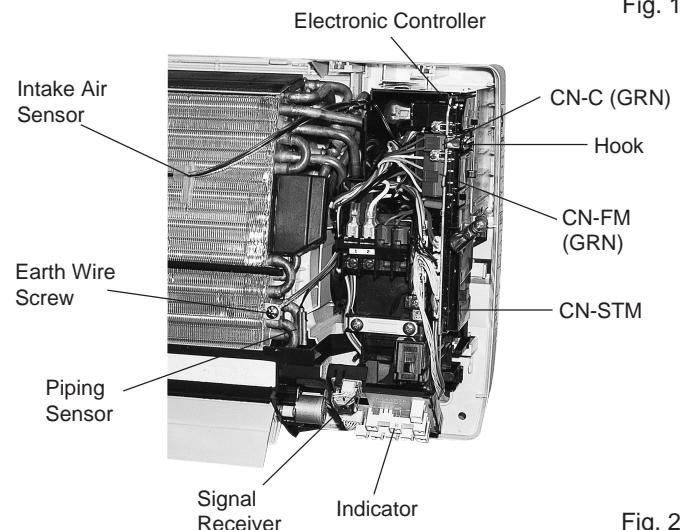

Fig. 2
1. The Electronic Controller, a signal Receiver and an Indicator (Fig. 2) can be seen by the below steps:
2. To remove the Electronic Controller, release the hook that holding the electronic controller. (Fig. 2)
} (Fig. 2)